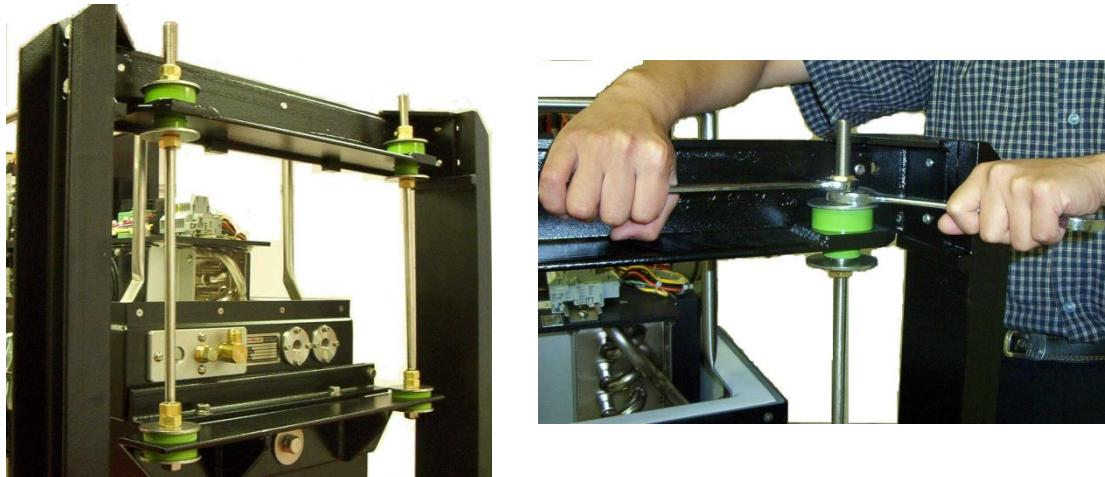

Figure 6.5 Suspension Adjustment
- 4) Loosen the bottom nuts at the 4 upper bushings (Figure 6.5).
For coarse adjustment, adjust the suspension support brackets (Figure 6.5) at the top of the scanner support assembly. Loosen the three forward-adjustment bolts on each end to allow the suspension to be moved forward or backward in its slots by tapping the frame with a rubber mallet. Loosen the four lateral-adjustment bolts on each end to allow the scanner to be moved sideways in a similar manner. When the laser line passes through the tips of the triangular cutouts as well as the linear cutouts on the alignment masks and the laser line cross hair intersects the proper target labels on the calibrator masks, tighten the bolts. Ensure that the suspension rods are vertical and scanner bubble level is in the middle.